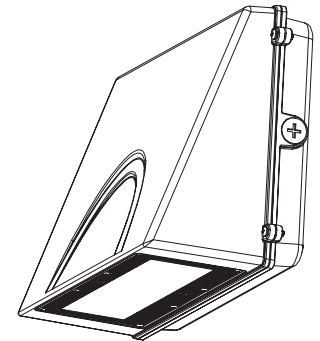

Fig 10
**6.** Check if the fixture work properly and lock the fixture by the 2 side screws. Installation is completed (Fig 10).